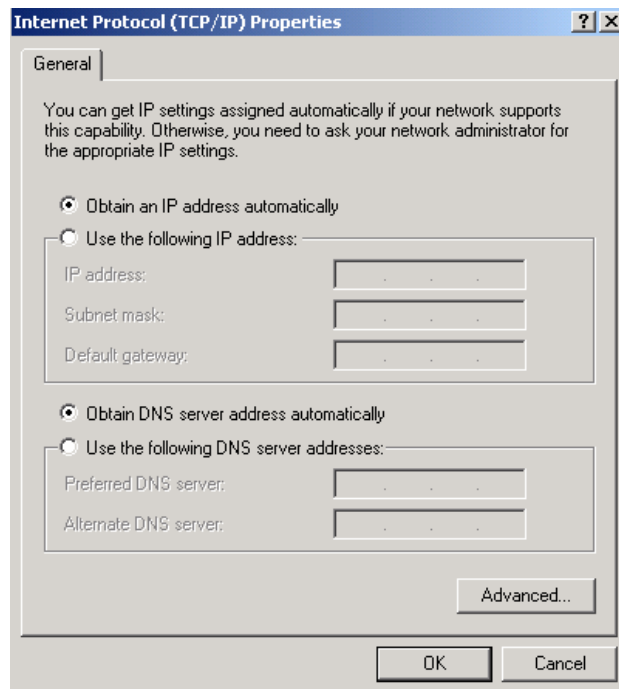

Figure 179: Internet Protocol (TCP/IP) Properties window
RESULT: The Internet Protocol (TCP/IP) Properties window opens, as shown in Figure 179.
6. Unless you have a static IP address configured on the SM, select **Obtain an IP address automatically** for the protocol analyzer laptop computer, as shown in Figure 179.